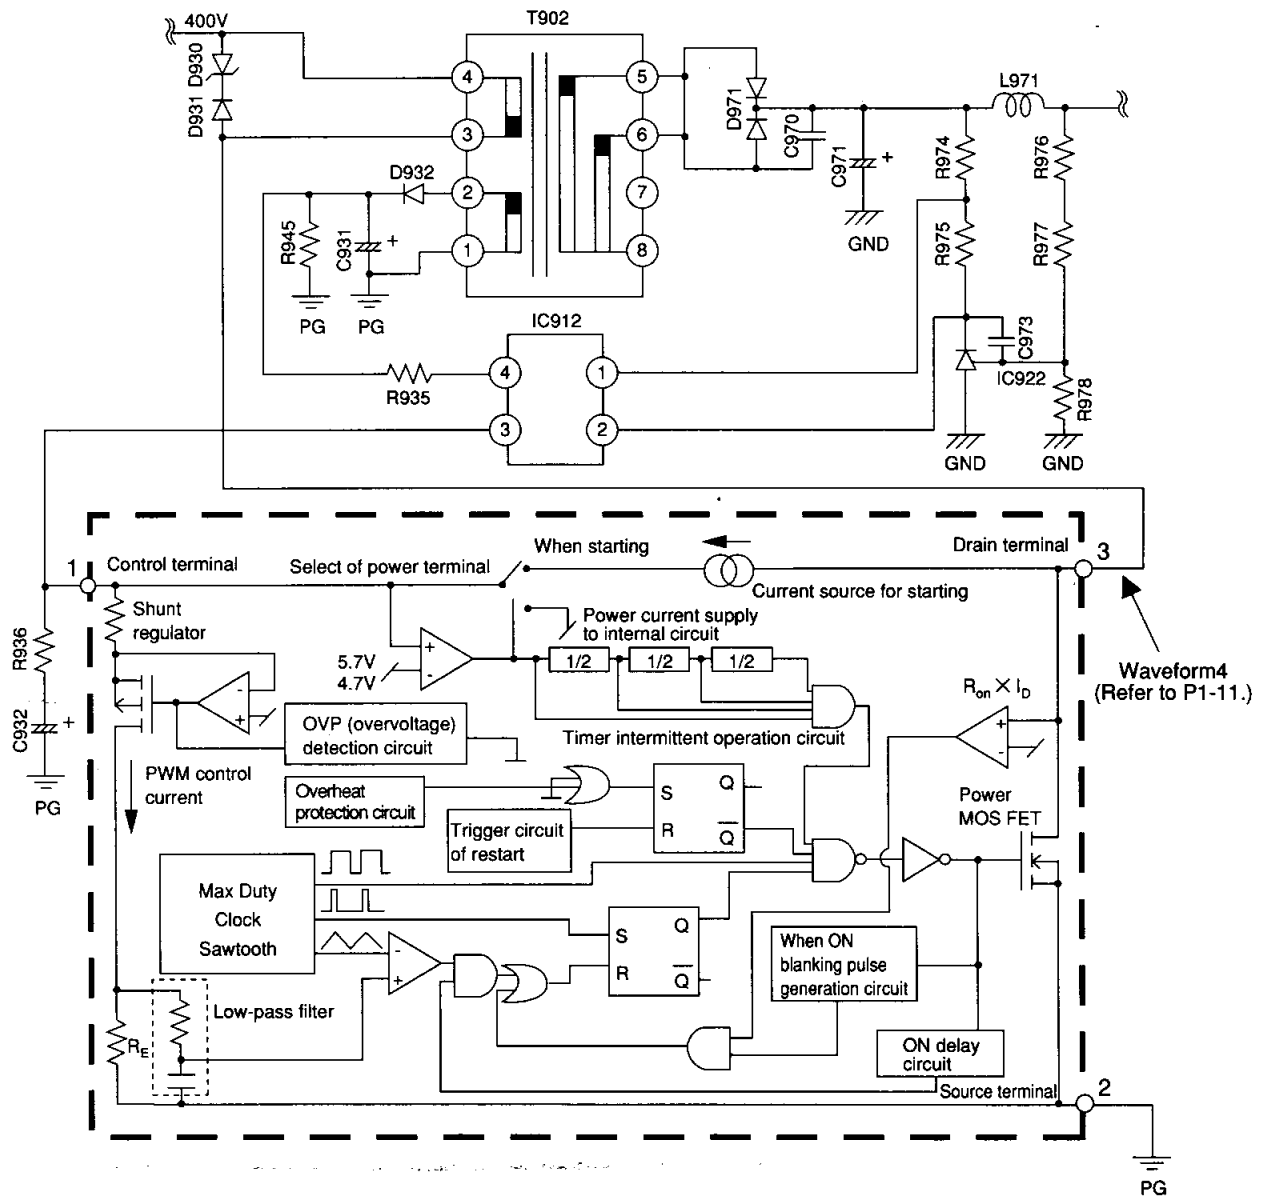

Figure 3. IC903 (MIP0223Y) block diagram and peripheral circuit
- (1) The sub power uses the self-excited type regulator MIP0223SY produced by Panasonic. (See Fig.3)
- (2) When the power switch is turned ON, the rectified and smoothened DC voltage ($AC \text{ voltage} \times \sqrt{2}$) is supplied to Pin 3 of IC903, and is charged to C932 through Pin 1. When Pin 1 reaches 5.7V, the current supply from Pin 3 is cut off to start oscillation (approx. 100kHz) in IC903, and the output FET is put into operation. (Since Q902 is OFF, IC902 and IC903 do not operate.)
- (3) This also induces the voltage at Pin 2 of T902 and on the secondary side. These outputs are respectively rectified, and are used as the power for control on the primary side and the power for the MPU and heater.
- (4) The voltage induced on the secondary side is fed back to the primary side through IC912 (photocoupler) from the constant voltage circuit that uses IC922 (shunt regulator). The circuit supplies and controls the power for control on the primary side to Pin 1 of IC903 via R935 in order to suppress the voltage fluctuation on the secondary side.
- (5) When the voltage on the secondary side starts, the MPU will be put into operation and the P-SUS signal line will become HIGH.
- (6) This information is transmitted to the primary side via IC913 to turn ON Q902. When Q902 is turned ON, the power for control on the primary side will be supplied to IC901 and IC902 to operate the higher harmonic circuit. Thus, the main power circuit will be put into operation.